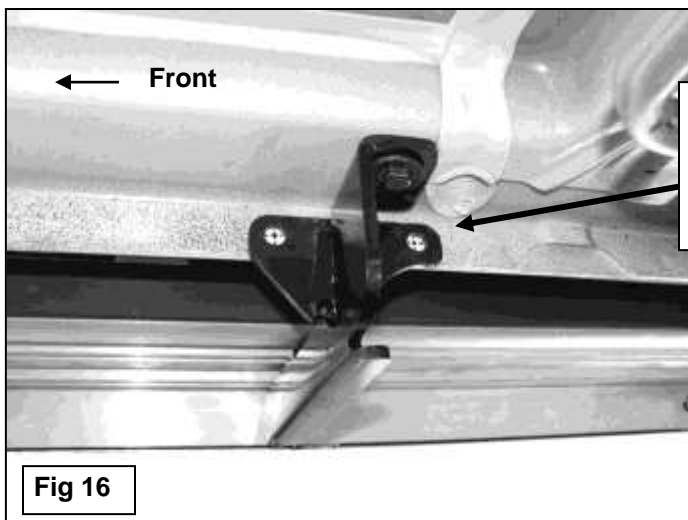

Fig 16
12. Mark the front, center and rear Support Bracket slot locations onto the back of the pinch weld, **(Figure 16)**. Temporarily remove the Running Board and Brackets. Remove the screws attaching the plastic rocker cover to the bottom of the body, **(Figure 11)**.